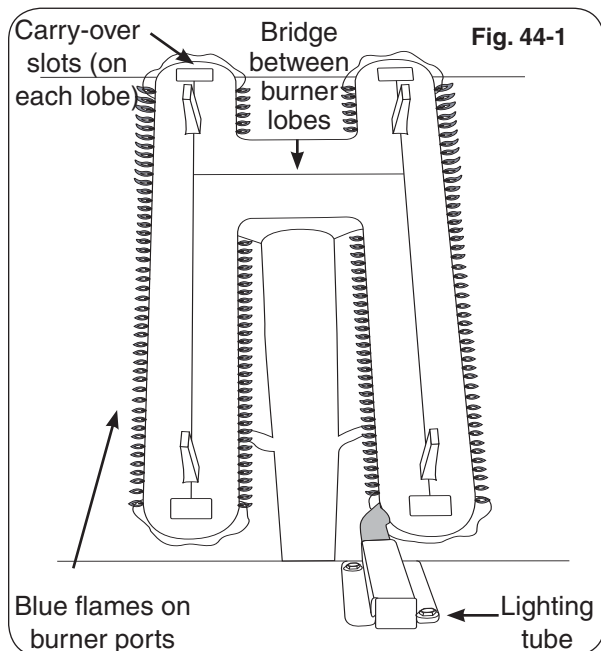

Fig. 44-1
Flames from a properly adjusted main burner with no wind or breeze present will appear fairly steady, consistent, and mostly blue. If the tip of a flame were to turn orange, it should only do so briefly and then become blue again. The flames will appear to burn while touching the burner ports (see Figure 44-1).
6. Repeat steps 1-4 until the flames appear to touch the burner ports, burning fairly steadily and mostly blue (see Fig. 44-1).